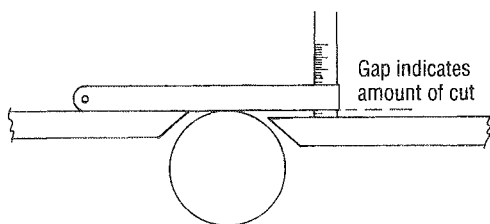

Fig. 3.22 Setting depth of cut.
2. Adjust the infeed table until the desired depth of cut is achieved (**Fig. 3.22**). If a scale is fitted to the machine this can be used to set the position. On machines with no scale use a steel